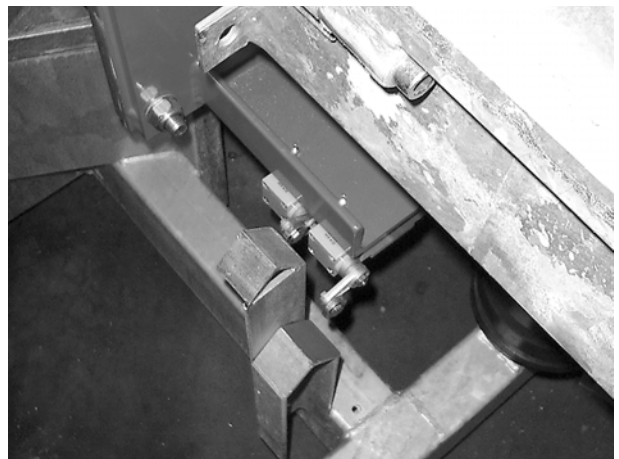

Fig.6-04 Lower striker plate
5. Check if the lower striker plate (fig.6-04) is mounted in the correct position. If not, this striker plate should be installed.